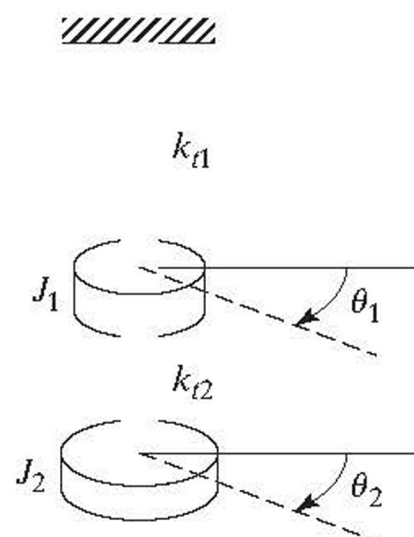

FIGURE 5.9
- 5.39 Determine the normal modes of the torsional system shown in Fig. 5.9 when  $k_{t1} = k_t$ ,  $k_{t2} = 5k_t$ ,  $J_1 = J_0$ , and  $J_2 = 5J_0$ .